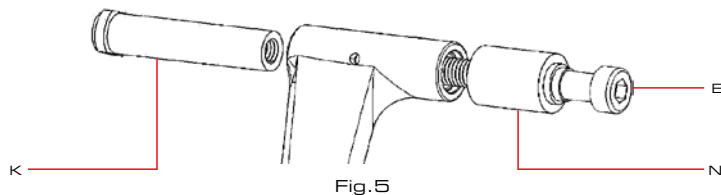

Fig.5
3. To remove the Equilink DU Bushings you must first remove the Grease Needle Fittings. This can be done by gently pulling them out with a set of good quality pliers. Discard the fittings you just removed. There is a new set of grease fittings included with your rebuild kit. After the grease fittings are removed, orient the tools as shown in Fig. 5. Tighten the bolt until both DUs inside each (top and bottom) barrel of the Equilink are pressed into the DU Receiver (N).